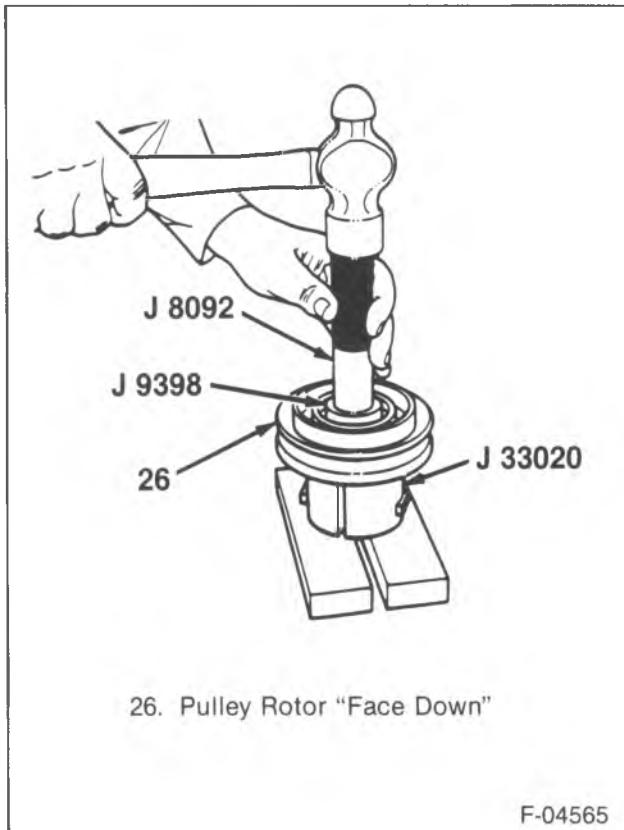

Figure 12—Removing the Bearing from the Pulley Rotor Assembly
4. Pulley bearing (25) from the pulley (26) using J 9398-A and J 8092 (figure 12).
- Remove the forcing screw from J 33020 and with the puller tangs still in place in the pulley slots, turn the assembly upside down onto a flat surface (figure 12).